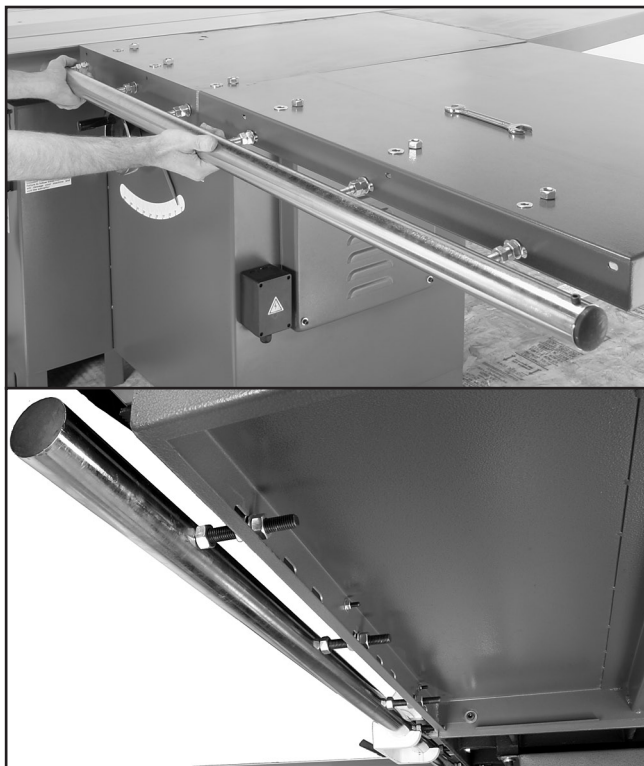
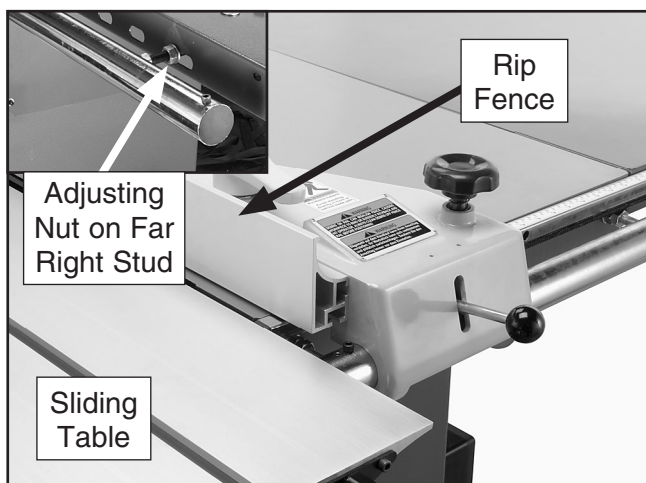

Figure 26. Installing the round rail.
Figure 30. Aligning the fence with the blade.
3. Insert the studs into the table as shown in **Figure 26**, and loosely secure with the hex nuts and flat washers removed in **Step 1**.
10. Adjust the round rail mounting position on the table by rotating the adjusting nut on the far right stud (of the round rail) until the rip fence is parallel with the blade as shown in **Figure 30**. (See **Figure 26** for a better view of all the round rail studs and adjusting nuts.)